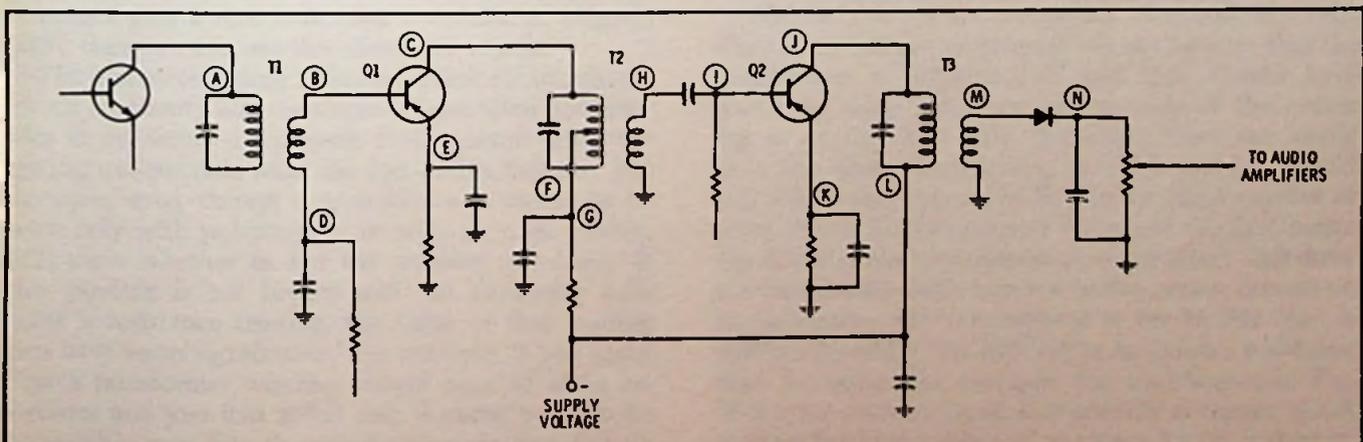

Fig. 14-20. Circuit for Questions 16 through 19.
6. Fig. 14-20 is an a-m radio i-f amplifier. Using an oscilloscope or signal tracer, you would expect to find the maximum amount of signal at point
- A. (A).
- B. (C).
- C. (E).
- D. (M).
17. In Fig. 14-20, using a signal tracer or scope, you should get an indication of more signal at
- A. (C) than (H).
- B. (H) than (I).
- C. (E) than (J).
- D. (I) than (B).
18. Assume that a radio using the circuit of Fig. 14-20 has weak output and you are using a signal tracer or scope to find the trouble. You check at (C) and (E) and you get a strong indication of signal; at (I), you get signal, but it is considerably less than at either (C) or (E); at (J), you get about the same signal as at (I). The trouble could be
19. In Fig. 14-20, you should get an indication of rf (i-f) with audio modulation at all the test points indicated except
- A. (D), (E), (G), (K), (L), (N)
- B. (A)
- C. (B), (F), (H), (I)
- D. (C) and (J)